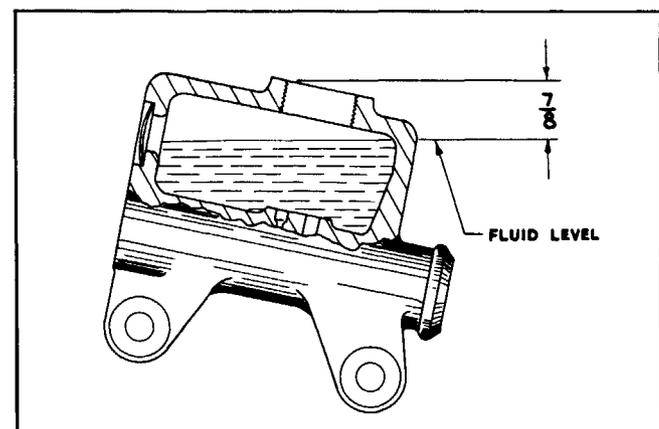

Fig. 5-5 Correct Level in Master Cylinder
there is more than 2" from the bottom of pedal pad to floor mat when brakes are applied (2" or less indicates need of adjustment). When the brakes are adjusted, the fluid level in the master cylinder should be checked and brought to  $\frac{7}{8}$ " from gasket surface on top of master cylinder filler neck as shown in Fig. 5-5. (Refer to page 5-12 for recommended brake fluid.)
8. Add sufficient brake fluid in the master cylinder to bring fluid level to within  $\frac{7}{8}$ " of top of gasket surface on filler neck (Fig. 5-5). Bleed brakes if necessary to get proper pedal reserve and remove "spongy pedal".
4. When bleeding operation is completed, refill reservoir to within  $\frac{1}{8}$ " of top of master cylinder filler neck gasket surface (Fig. 5-5) and then replace filler cap. Never attempt to clean fluid that has once been used (see CAUTION in Step 1 above). To avoid trouble and mistakes in the shop, used fluid should be thrown away.